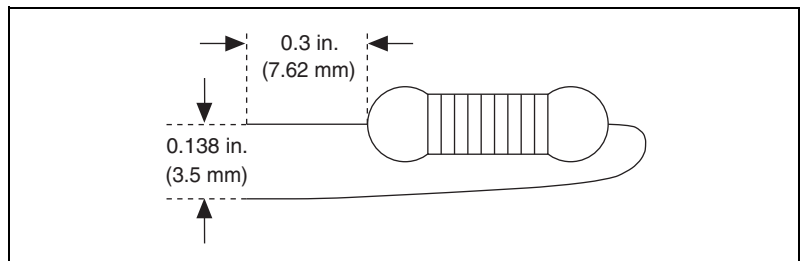

Figure 4-12. Preparing Lead Wires of PCMCIA-CAN/LS Cable Replacement Resistors
2. Bend and cut the lead wires of the two resistors you want to install, as shown Figure 4-12.